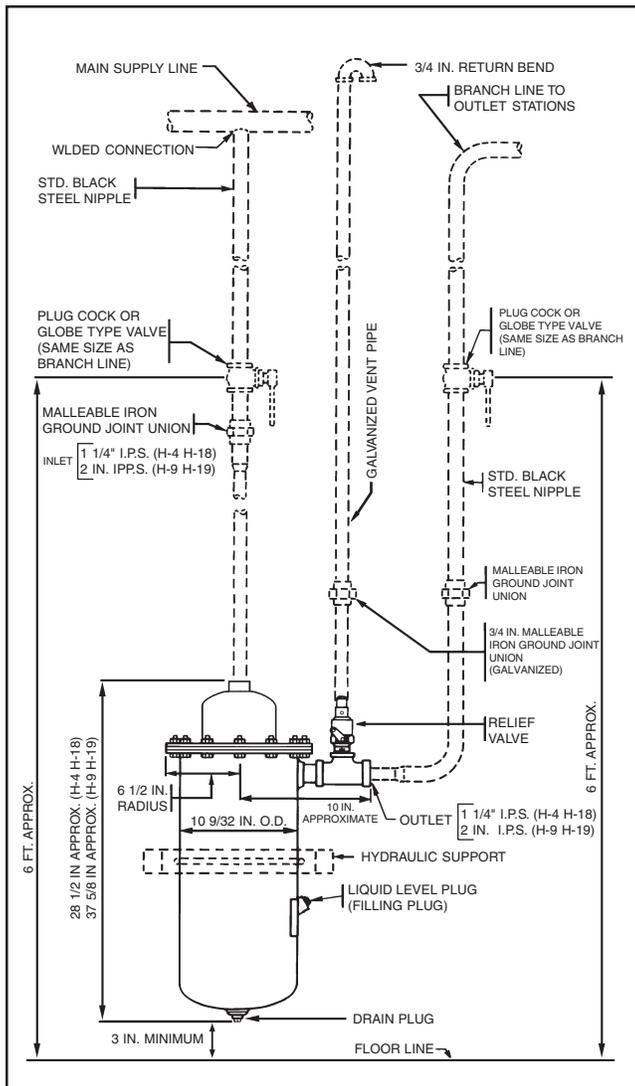

Fig. 1 - Installation Drawing
For use with acetylene there are three different sizes: H-2 with a flow capacity of 500 cfh (14m³/h), H-4 with a flow capacity of 1000 cfh (28 m³/h) and H-9 with a capacity of 3000 cfh (85 m³/h). Except for the size of the hydraulic tanks and outlet piping (see Fig. 1) these two are identical.
1. Install the hydraulic in a true vertical position with the shut-off valves and union connections shown in Fig. 1. Fit the connection nipples accurately so that the union joints can be made up without straining the connection joints at the hydraulic.